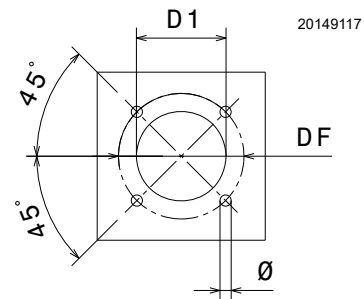

Fig. 13
Pierce the closing plate of the combustion chamber, as in Fig. 13. The position of the threaded holes can be marked using the thermal insulation screen supplied with the burner.
- Fit the entire burner onto the boiler hole prepared previously (Fig. 13 on page 19), and fasten with the screws supplied.